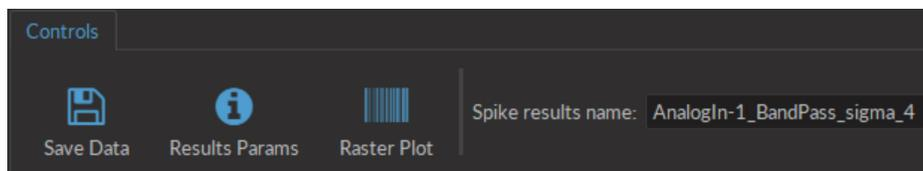

Figure 3.37: Spike Finder Control Box
1. The **Control box** (Fig. 3.37) displays options usable in the window.